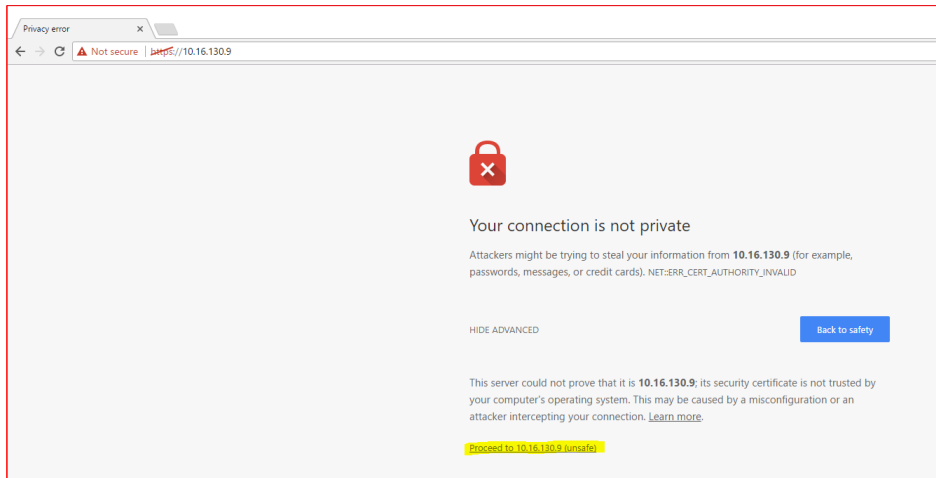

Figure 10: Web interface – second screen
- Click **Proceed** (Figure 10).